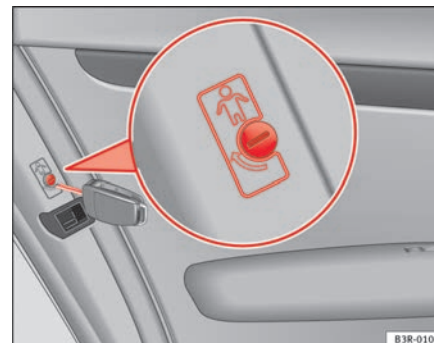

Fig. 75 Childproof lock on the rear doors
- Turn the key in the direction of the arrow ⇒ fig. 75.